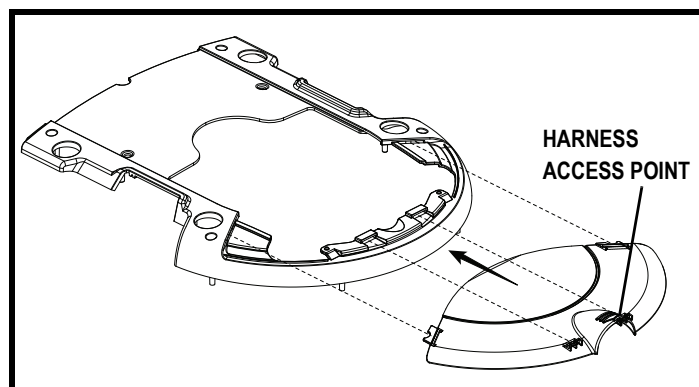

Figure 12. Rear Shroud Assembly
6. Gently push down and pull backward at the harness access point on the rear shroud until it releases. See figure 12.
2. Gently push down and pull rearward at the harness access point on the rear shroud until it releases. See figure 12.